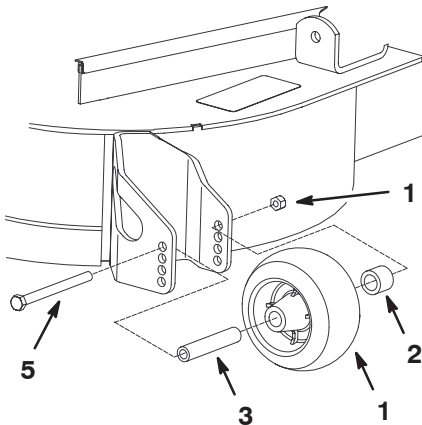

Figure 12
1. After adjusting the height-of-cut, adjust the rollers by removing the flange nut, bushing, spacer, and bolt (Fig. 12).
3. Install the flange nut, bushing, spacer, and bolt. Torque to 40–45 ft-lb (54–61 N·m) (Fig. 12).